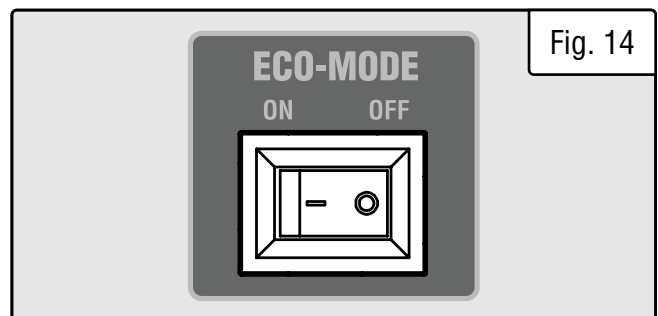
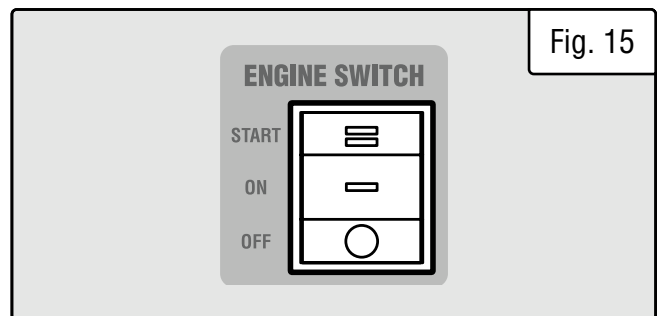

Fig. 14
Fig. 15
2. Turn the ECO-MODE switch (Fig. 14) to the OFF position during startup.
- 3a. **ELECTRIC START** - Turn the ENGINE SWITCH (Fig. 15) to START. Once the engine starts, turn the switch to ON.
3. Make sure that the LPG / NG hose is properly connected to the fuel tank and the inlet on the generator (refer to “FUEL OPTION B: LIQUID PETROLEUM GAS (LPG)” on page 16 and “FUEL OPTION C: NATURAL GAS (NG)” on page 18).
- 4a. **ELECTRIC START** - Turn the ENGINE SWITCH (Fig. 15) to START. Once the engine starts, turn the switch to ON.